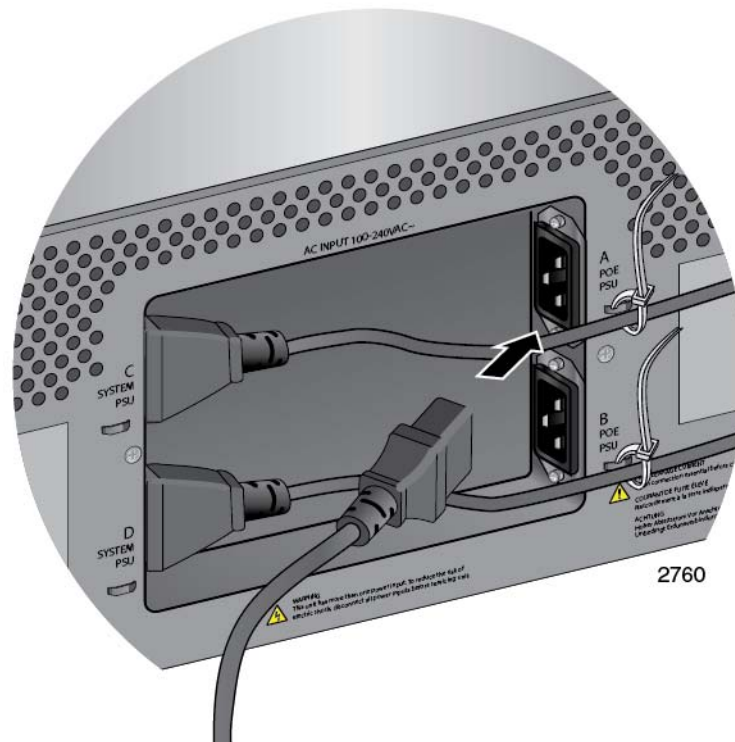

Figure 119. Connecting the AC Power Cord for the AT-SBxPWRPOE1 Power Supply
2. Plug the AC power cord that comes with the power supply into one of the plugs, as shown in Figure 119.